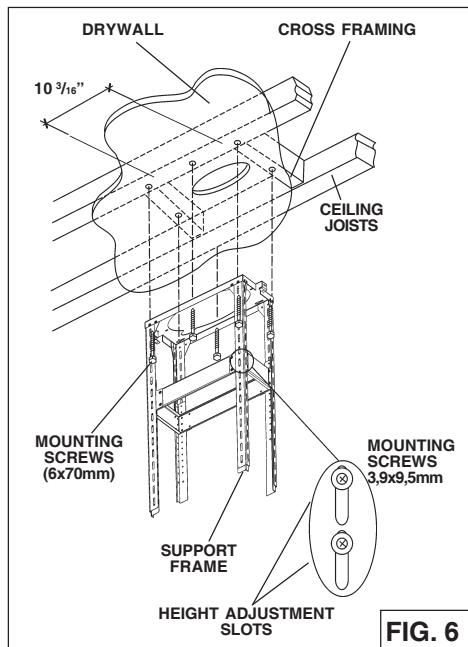

FIG. 6
- Adjust the overall height using the chart below of the support frame. Loosen and re-tighten the 4 screws in the **height adjustment slots** as necessary. Insert 12 screws (3.9x9.5mm) located in the Hardware Package (Fig.6) make sure this a 4" min. overlap between the upper and lower support legs.